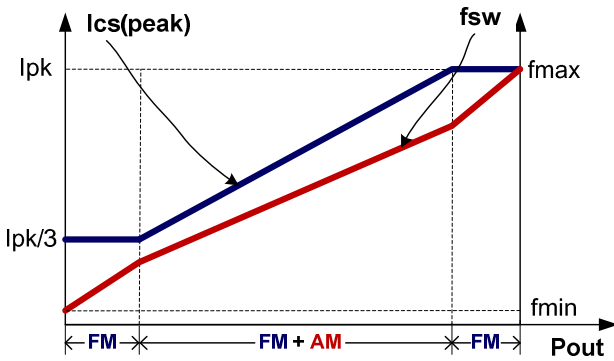

Fig.4
To meet the tight requirement of averaged system efficiency and no load power consumption, a hybrid of frequency modulation (FM) and amplitude modulation (AM) is adopted in DP2520 which is shown in the Fig 4.